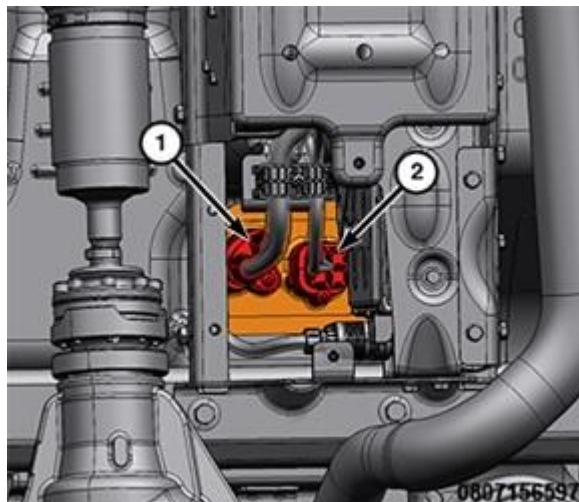

Figure 12 – HV Battery Wiring Connectors
- 17. Disconnect the HV wire harness connectors (1) and (2) from the HV battery (Figure 12).